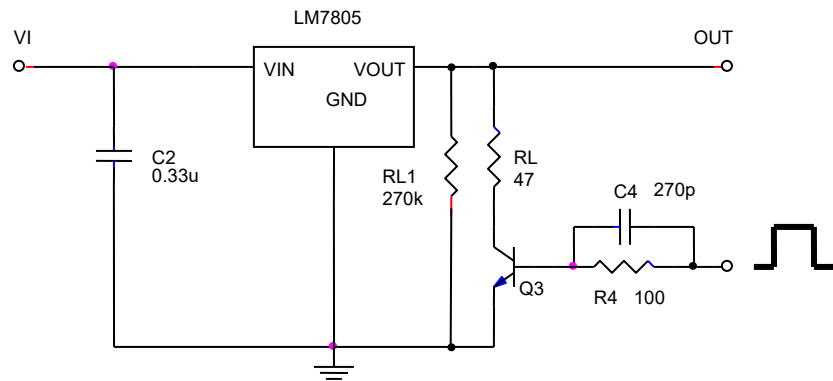

Fig. 3. Load regulation
- For the circuit in Fig. 3., compute the value of the load resistance, corresponding to both values (levels) of the *TTL* voltage.
- Build the experimental schematic in Fig. 3. by applying $V_I = 8V$ at the *VI* point and a *TTL* voltage with an amplitude of $5V$ and a frequency of $500Hz$, at the control input of the Q_3 transistor. To do this, disconnect *J3* from *J4*, and *J14* from *J15* and connect *J1* with *J2*, and *J13* with *J14*.